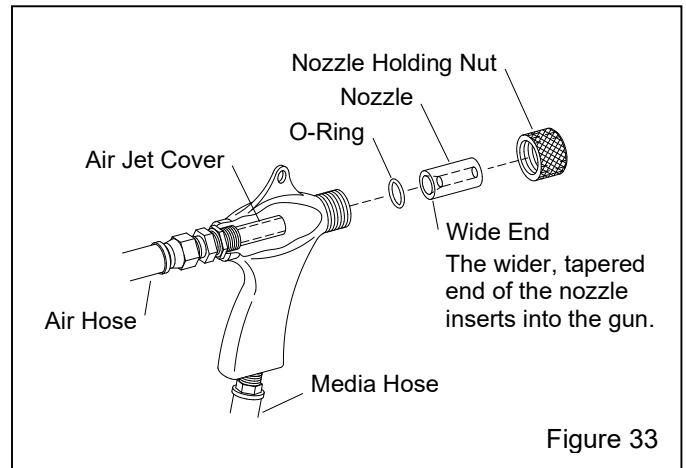

Figure 33
7.3 BNP® Gun Assembly – Figure 33